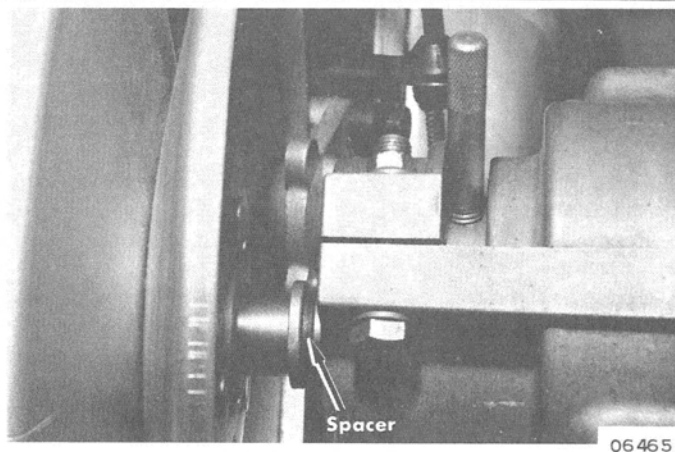

Figure 5. Spacer Position
**CAUTION:** When installing spacer C-23-58701 on jackshaft between driven sheave and chaincase, make certain that spacer is placed on jackshaft next to chaincase and behind the ground recess in jackshaft. (Figure 5)